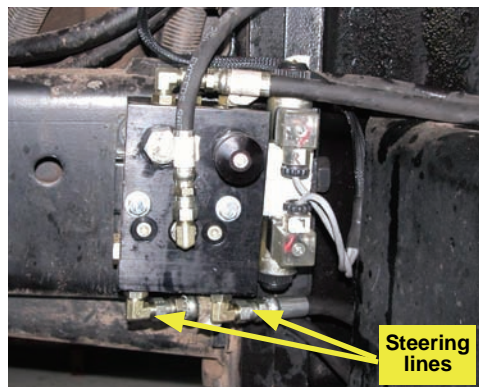

Figure 3b: Installed left and right steering hoses at the steering block.
- b. Route the left and right steering hoses down to the hydraulic steering block. Attach the hoses to the **A** and **B** ports of the hydraulic steering block (Figure 3b).